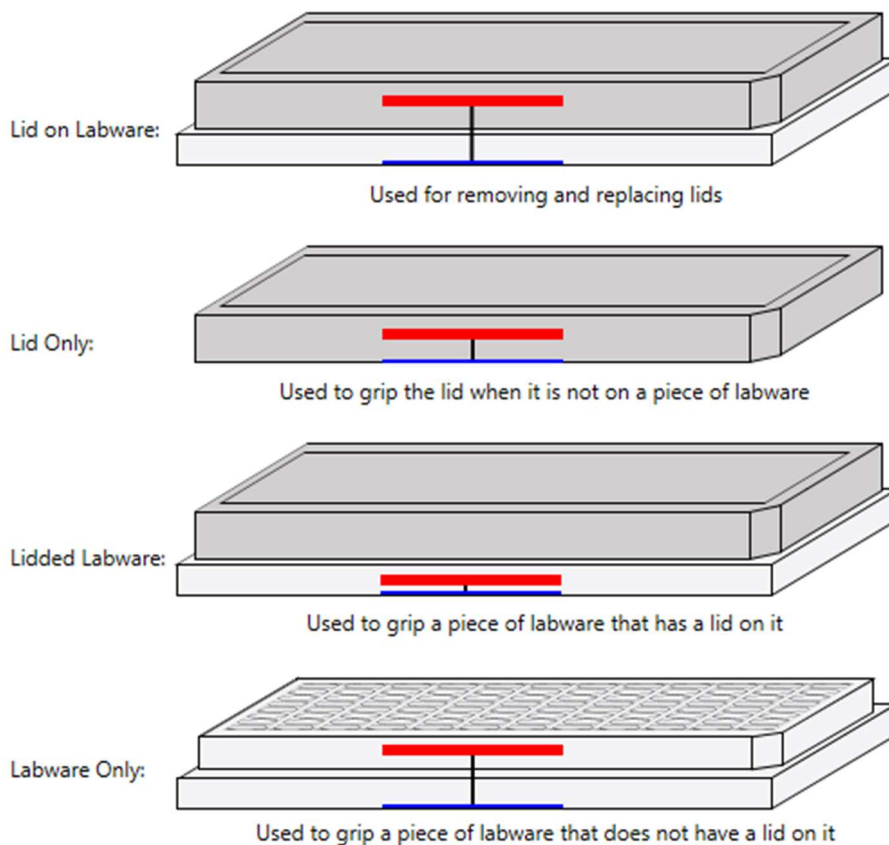

Figure 2 – Measuring Grip Offsets
- Lidded and lidless ANSI/SBS - sized microplates with a gripper-accessible surface at least 3 mm in height are supported (the SCARA usually grips lidded plates at the skirt; lidless plates are usually gripped above the skirt). An example of these grips is shown in Figure 2.
engage the lid (while on the plate) for lid removal. Measure to the middle of the finger pads. Refer to the graphics in the software (shown in Figure 2) for an illustration of the distance to be measured. The SCARA gripper pad is represented by the top, red line. Enter the distance from the labware bottom to the middle of the gripper in the **Lid On Labware** column.
4. If the labware is always lidless, skip this step. If the plate is ever lidded, measure the distance (in millimeters) from the bottom of the lid to the height at which the SCARA gripper fingers need to engage the lid for transport when not on a plate. (Figure 2) Ensure the height is measured from the bottom of the lid to the same point on the lid used in the previous step. Enter this value in the **Lid Only** column.